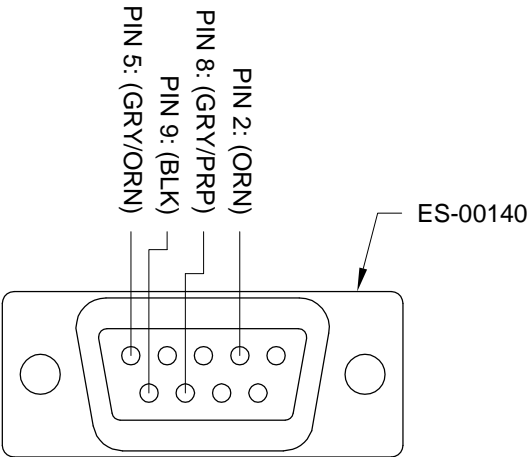

FIGURE 1: INSERTING WIRES INTO THE GPS D-SUB
Step 1: Counting from the aft most rivet, remove the tenth rivet from the F-1283C J-Stiffener. See Figure 1.